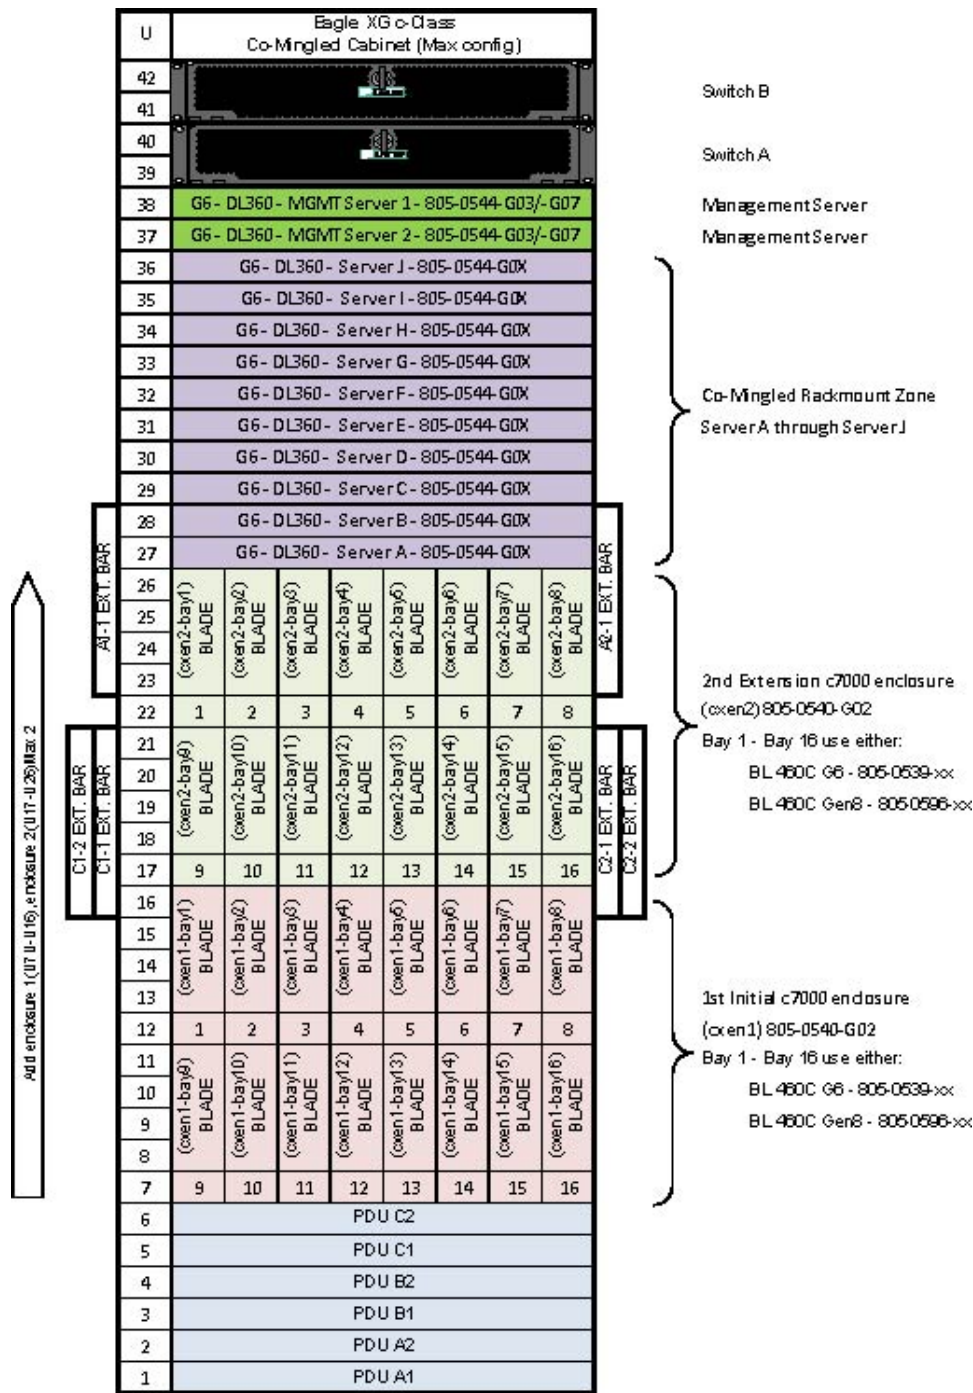

Figure 2: Example of an AC Co-Mingled cabinet with Cisco 4948E-F
- Figure 2: Example of an AC Co-Mingled cabinet with Cisco 4948E-F